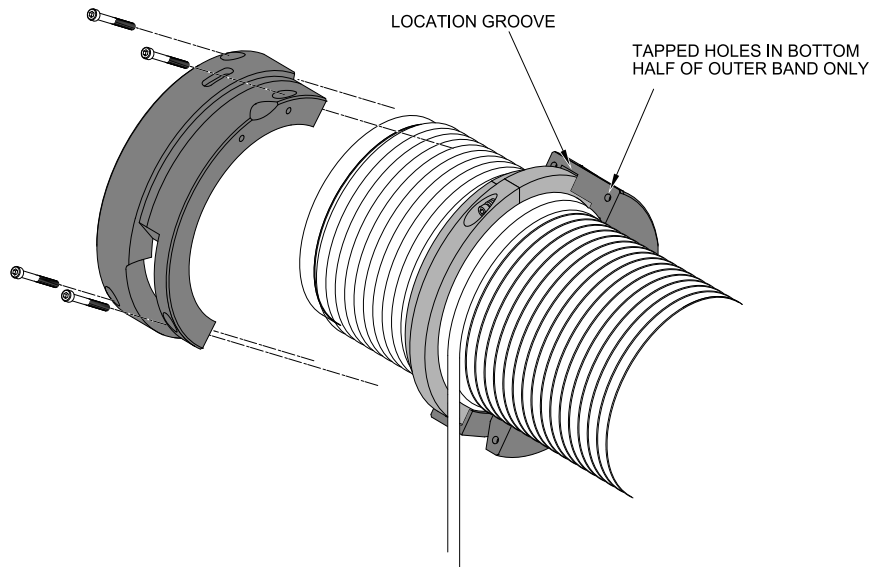

Figure 70 – Fitting Rope Guide Outer Band
- Fit the bottom half of the outer band (tapped joint holes) over the inner band and rotate until it is on the underside of the barrel ensuring that the slot collects the rope which leaves the barrel (see Figure 70).